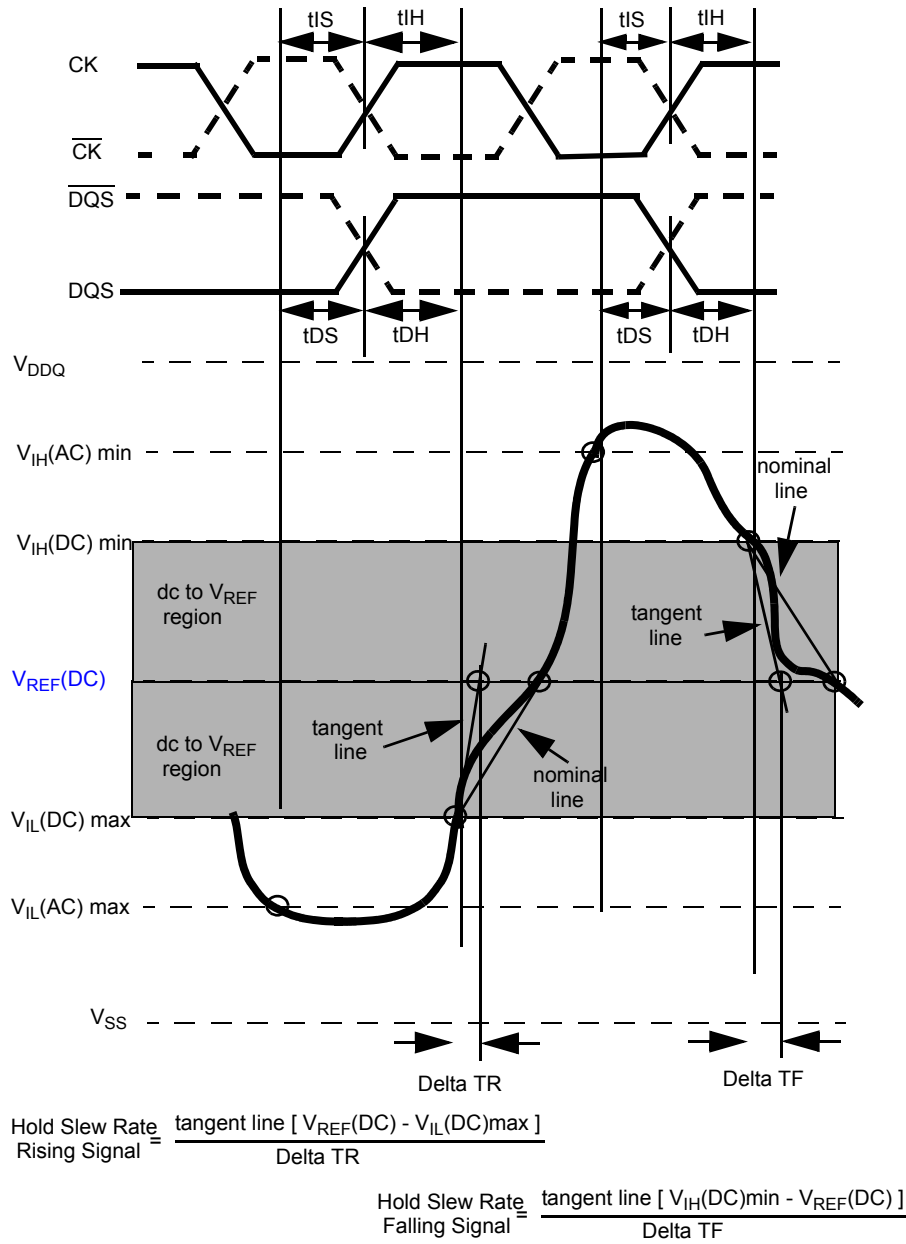

Figure 24 - Illustration of tangent line for hold time tDH (for DQ with respect to strobe) and tIH (for ADD/CMD with respect to clock)
Hold (tIH) nominal slew rate for a rising signal is defined as the slew rate between the last crossing of V_{IL}(DC)max and the first crossing of V_{REF}(DC). Hold (tIH) nominal slew rate for a falling signal is defined as the slew rate between the last crossing of V_{IH}(DC)min and the first crossing of V_{REF}(DC). If the actual signal is always later than the nominal slew rate line between shaded 'dc to V_{REF}(DC) region', use nominal slew rate for derating value (see Figure 24). If the actual signal is earlier than the nominal slew rate line anywhere between shaded 'dc to V_{REF}(DC) region', the slew rate of a tangent line to the actual signal from the dc level to V_{REF}(DC) level is used for derating value (see Figure 26).